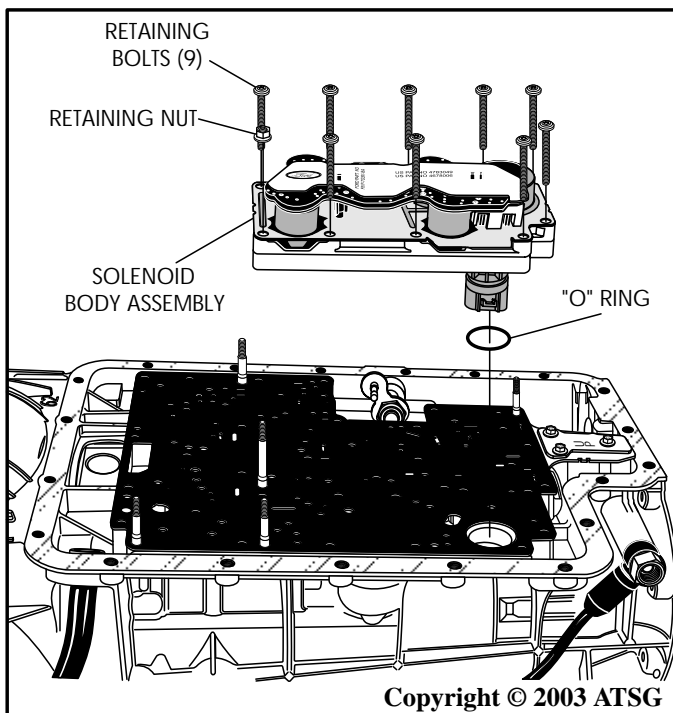

Figure 192
8. Install new "O" ring seal on the solenoid case connector, as shown in Figure 192, lube the "O" ring with Trans-Jel®, and install solenoid body (See Figure 192).
9. Install the nine solenoid body bolts and the one nut, as shown in Figure 192, and hand tighten only at this time.